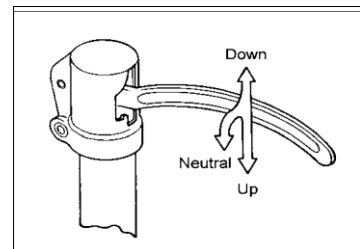

Fig. 1
To raise the forks, place handle in the UP position (bottom part of the handle slot), see Fig. 1.
1. Lower forks to lowest position, Figure 1.
3. Place lever in UP position (bottom part of slot), Figure 1.
1. Place lever in NEUTRAL position (center notch of slot), Figure 1.
1. Pull lever to the DOWN position (upper part of slot), Figure 1.
1. Set the lever in the NEUTRAL position, Figure 1.
G. Position the connection end (see Fig. 1, p. 1) of the tow bar around the steering shaft and align all of the shaft openings; then insert the wheel shaft.